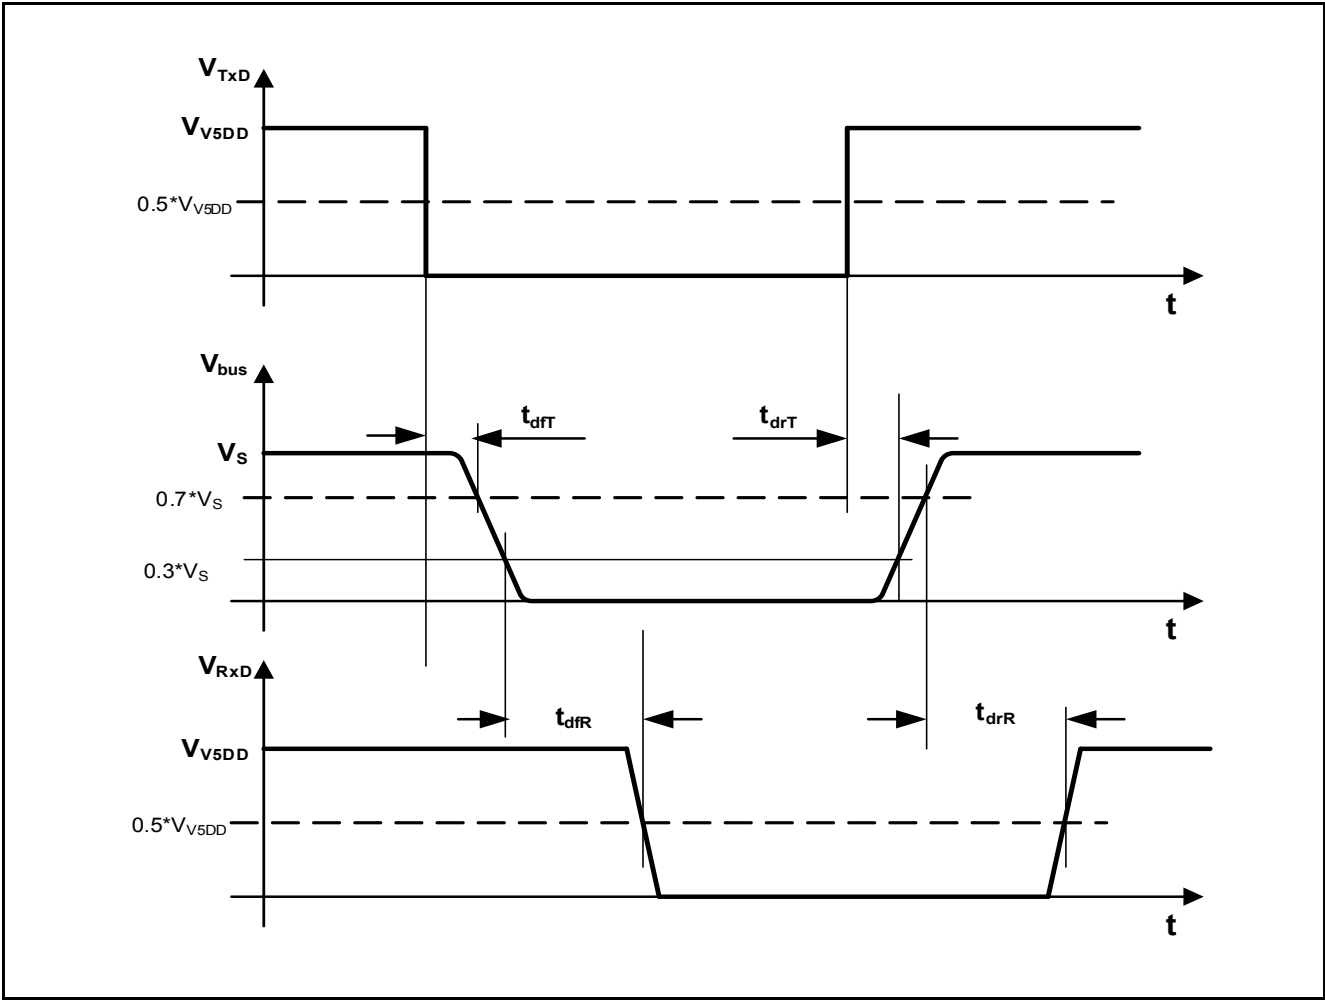

Figure 18 K-Line Transfer Characteristics
1) For definition see Figure 18.